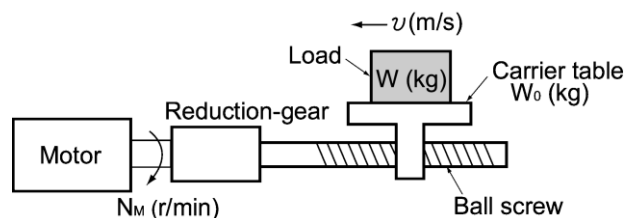

Figure 9.6 Moving a Load Horizontally
A simplified mechanical configuration is assumed as shown in Figure 9.6. If the mass of the carrier table is W_0 (kg), the load is W (kg), and the friction coefficient of the ball screw is μ , then the friction force F (N) is expressed as follows, which is equal to a required force for driving the load:
Assume a carrier table driven by a motor as shown in Figure 9.6. If the table speed is v (m/s) when the motor speed is N_M (r/min), then an equivalent distance from the shaft is equal to $60 \cdot v / (2\pi \cdot N_M)$ (m). The moment of inertia of the table and load to the shaft is calculated as follows: